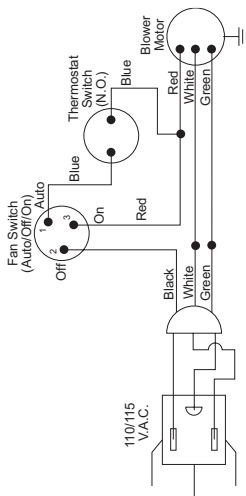

Figure 19 - Wiring Diagram For Blower Accessory Built-In Installation
4. A licensed electrician must follow the wiring diagram to connect incoming electrical supply to fan kit wiring harness (see Figure 19).